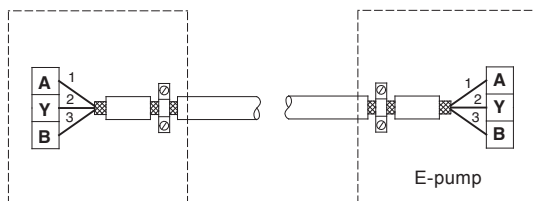

Fig. 55 Connection with screened 3-core cable and metal cable bracket at both ends
- If the E-pump is connected to an electronic unit, control panel, etc. with a cable clamp identical to the one on the E-pump, the screen must be connected to this cable clamp. See fig. 55.